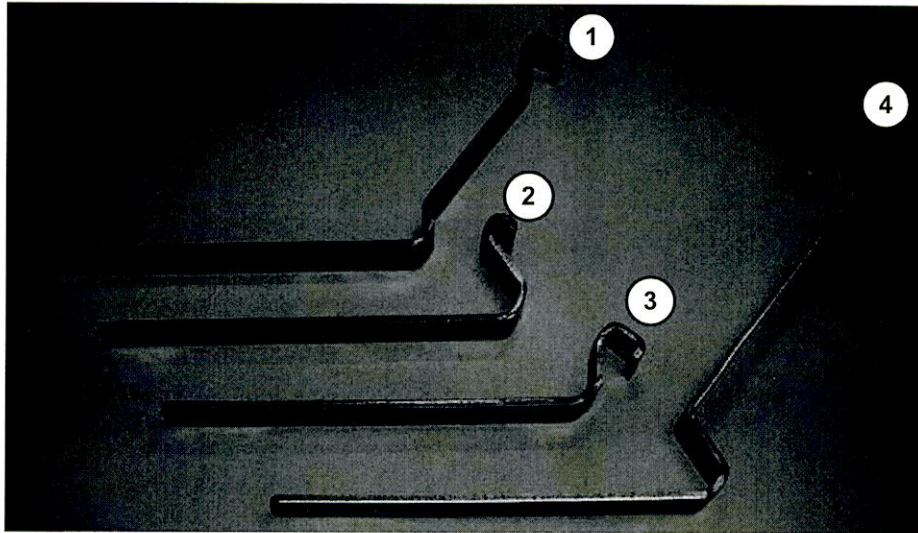

FIGURE 1-3 WINDOW TESTING TOOLS
3. With the window to be tested in the open position, select the appropriate testing tool (See **Figure 1-3**) and secure it to the lip of the window as shown in **Figure 1-4** so the elbow of the tool is at the pressure point being tested.
- a. **Driver's Barrier (C1) Window** - Using the No. 2 testing tool (See **Figure 1-3**) in the positions specified for a lower vent window in **"Window Load Test Points - Mullion-Hinged Windows"** on page 8, open the window behind the driver's barrier and test from **outside the bus**.